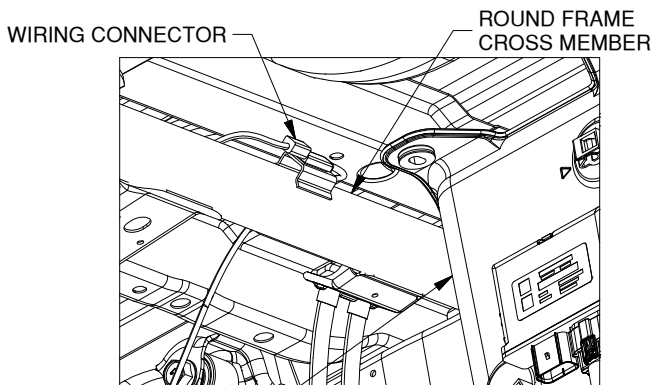

Figure A5
- 10. Temporarily remove wiring connector.** For additional clearance, the wiring connector attached to the round frame cross member can be uninstalled from its bracket and allowed to hang during installation, see Figure A5. This will increase the clearance for the installation of the center section and protect the wiring connector during the install.